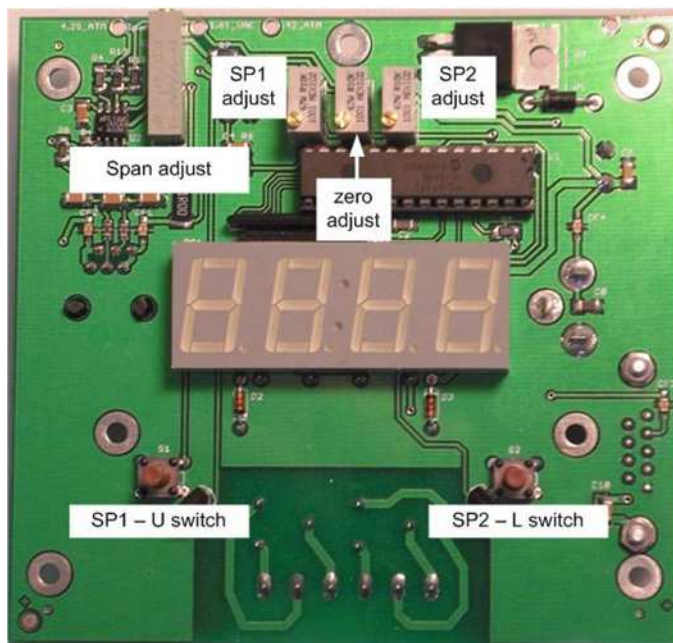

Figure 2 Card Adjustment Buttons
- a. Pressing the **U** button (Figure 2) - set point 1 appears.